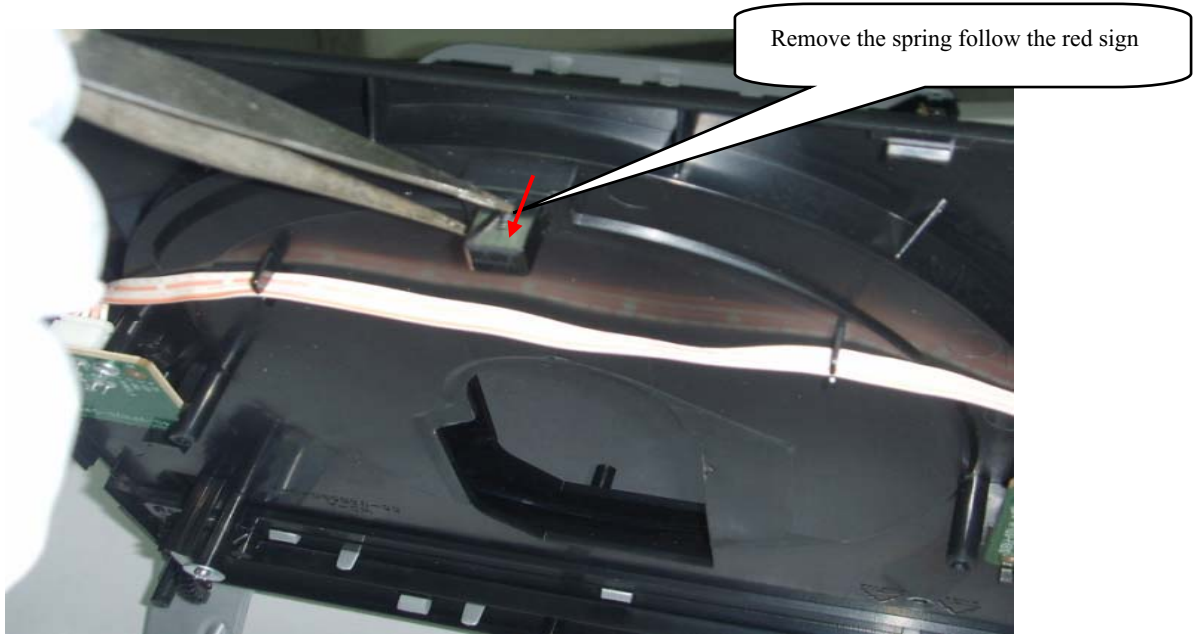

Figure 3
**Step2:** If the disc blocked in the loader and disc door can't open in normal way, you can make it through the instruction as below to take out the disc. (Figure 3 & 4)